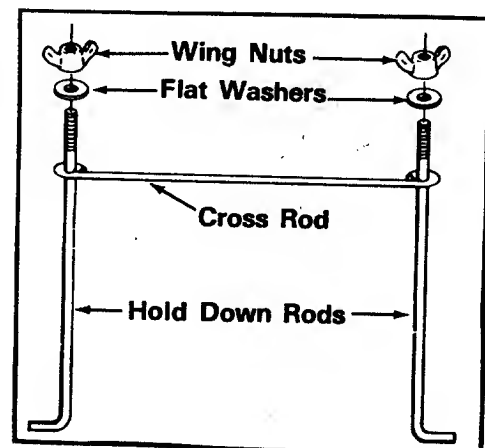

Figure 2
4. Assemble the hold down rods and cross rod before you place it over the battery. (See figure 2.)